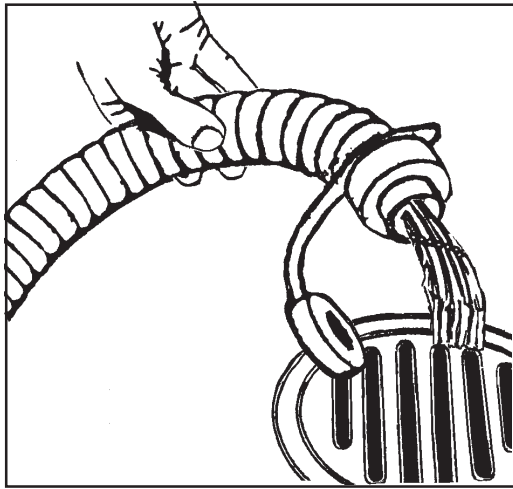

Figure 5
3. When cleanup is complete, empty the liquid by opening the drain valve on the drain hose. See figure 5.